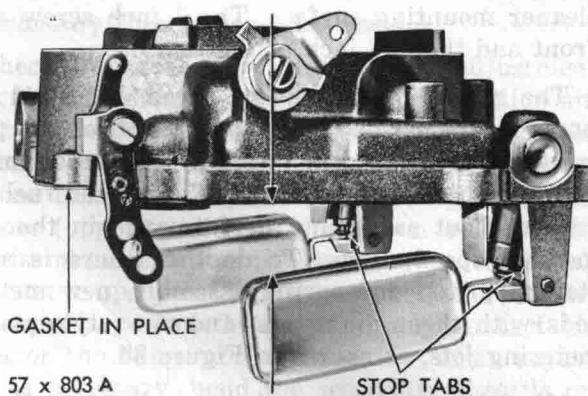

Fig. 33—Checking Float Drop
(1) Holding the air horn in an upright position, measure the distance from the top of the floats (outer end) to the air horn gasket, as shown in Figure 33. This measurement should be  $\frac{9}{16}$  inch. If an adjustment is necessary, bend the stop tabs on the